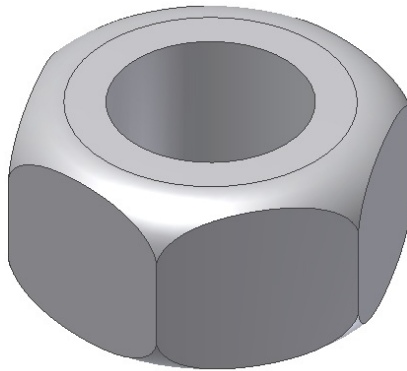

Figure 8-157 Model after creating the intersect feature
- Define a new sketch plane on the top face of the base feature. Draw a hexagon on this plane and extrude it using the **Intersect** operation, refer to Figure 8-157.
2. Exit the Sketching environment. Extrude the sketch using the **Intersect** operation and the **All** extents. The model after creating the cut feature is shown in Figure 8-157.